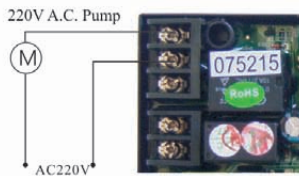
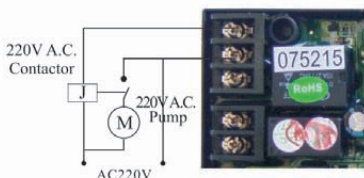

Figure 3-7 Wiring of Booster Pump on Inlet
Figure 3-8 Wiring of Booster Pump on Inlet
**Instruction:** If inlet water pressure is less than 0.15MPa, which makes backwash or rinse drawing difficult, a booster pump is suggested to be installed on inlet. Control mode b-01. When system in regeneration cycle, booster pump is open, the wiring refers to Figure 3-7. If the booster pump current is bigger than 5A, the system needs to install a contactor, the wiring refers to Figure 3-8.